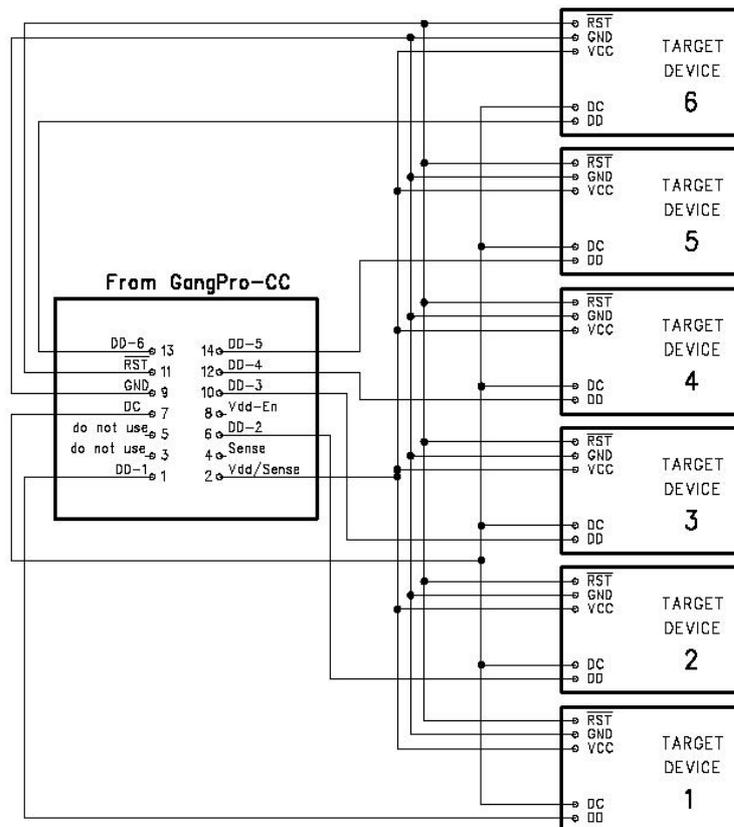

Figure 2-5
The *GangPro-CC* Flash Programmers (Figure 2-3) use the **14-pin** connector to facilitate connections with six target devices. Connector layout and pin descriptions are shown on Figure 2-4 and Table 2.2. When the GangPro-CC programming adapter is connected to target devices then all clock signals (DC) should be connected in parallel to target devices and all six bidirectional data lines (DD) should be connected to each target device. Remaining lines (RST, Vdd, GND) are connected to all target devices in parallel (Figure 2-5).